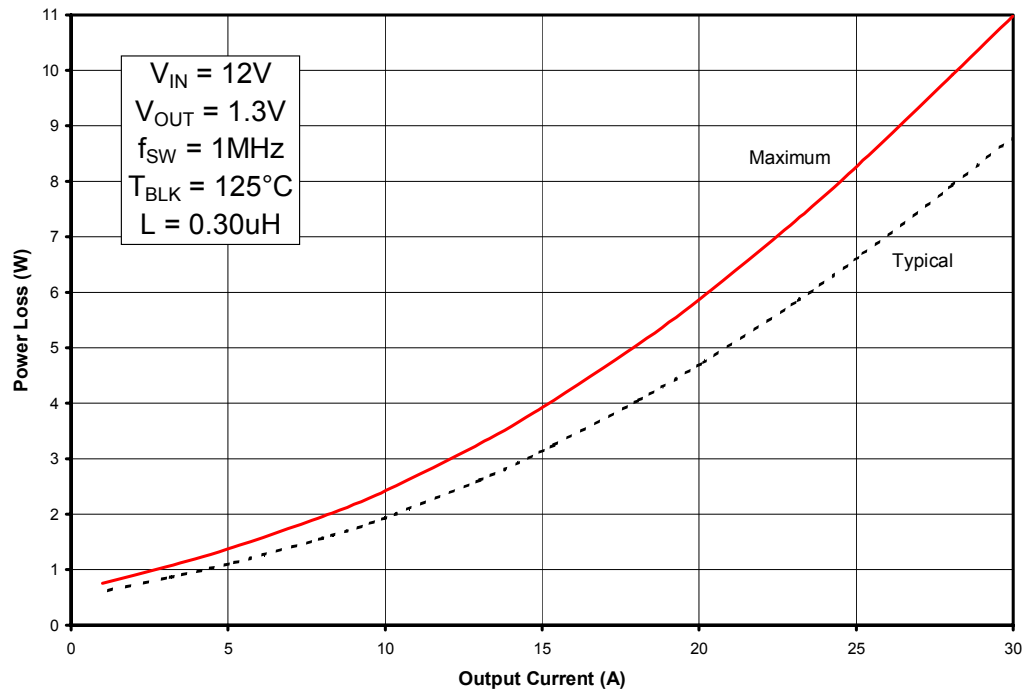
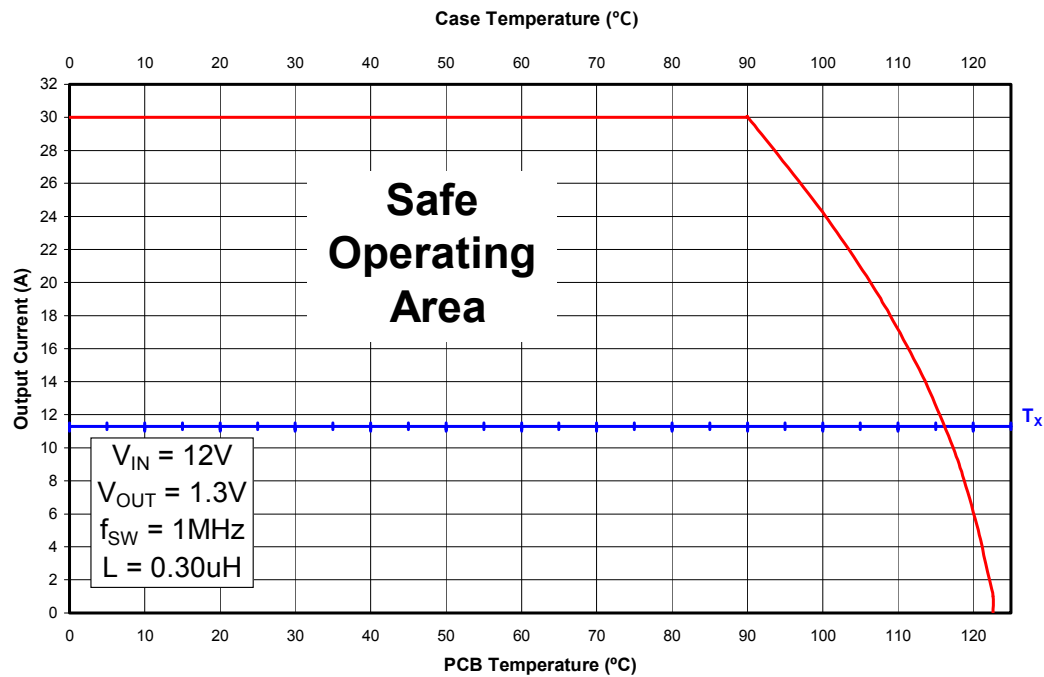
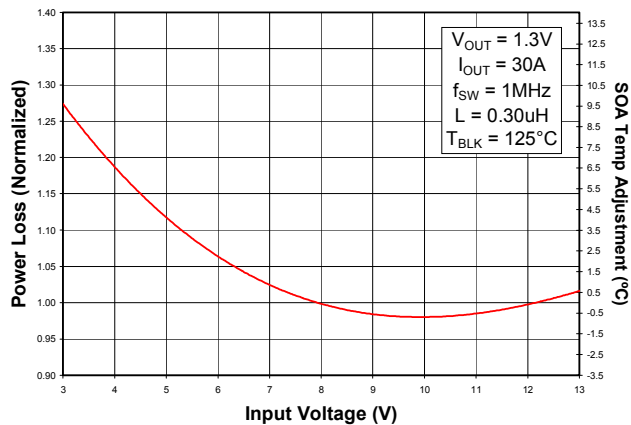

Fig. 1: Power Loss vs. Current
Fig. 2: Safe Operating Area (SOA) vs. T_{PCB} & T_{CASE}
Fig. 3: Normalized Power Loss vs. V_{IN}
To make adjustments to the power loss curves in Fig. 1, multiply the normalized value obtained from the curves in Figs. 3, 4, 5 or 6 by the value indicated on the power loss curve in Fig. 1. If multiple adjustments are required, multiply all of the normalized values together, then multiply that product by the value indicated on the power loss curve in Fig. 1. The resulting product is the final power loss based on all factors. See example no. 1.
To make adjustments to the SOA curve in Fig. 2, determine your maximum PCB Temp & Case Temp at the maximum operating current of each iP2002. Then, add the correction temperature from the normalized curves in Figs. 3, 4, 5 or 6 to the T_x axis intercept (see procedure no. 2 above) in Fig. 2. When multiple adjustments are required, add all of the temperatures together, then add the sum to the T_x axis intercept in Fig. 2. See example no. 2.
- (Fig. 1) Maximum power loss = 11W
- (Fig. 3) Normalized power loss for input voltage ≈ 0.98
- (Fig. 3) Normalized SOA Temperature for input voltage $\approx -0.6^{\circ}\text{C}$